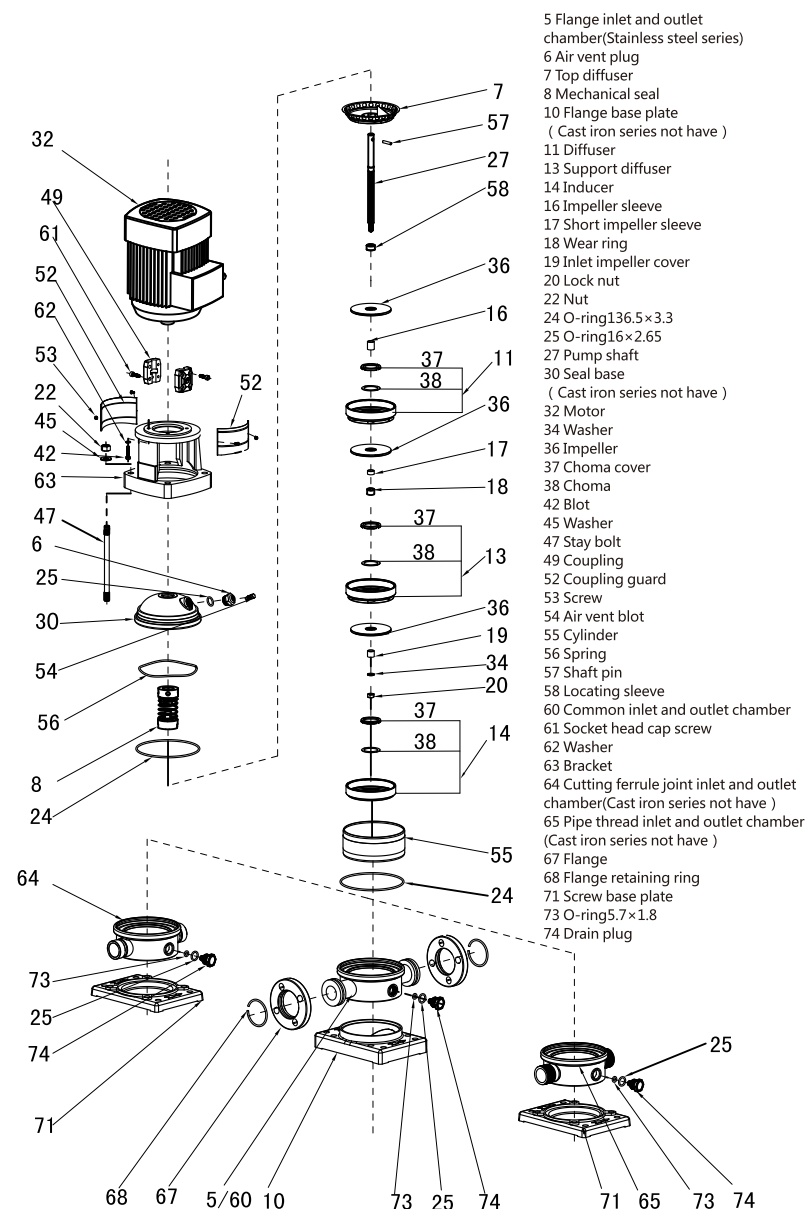

Fig 1-1 1/2/3/4/5
• The pump is mainly composed of motor, pump head, diffuser, impeller, cylinder, inlet & outlet chamber, pump shaft, mechanical seal and so on. Refer to Fig1-1, 1-2, 1-3, 1-4.